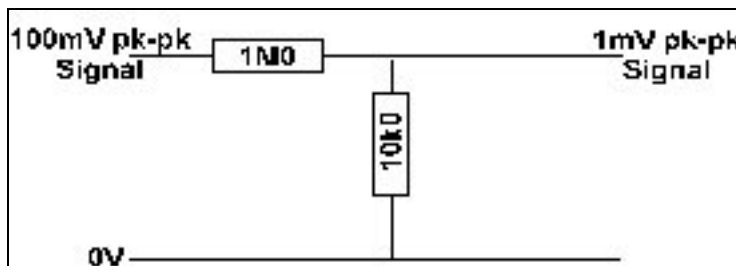

Figure 1 Signal attenuator
3. Connect a 1M Ω (1%) resistor and a 10k Ω (1%) resistor in series across the signal output connectors as shown in Figure 1. This will attenuate the Signal Generator to a level (1mV pk-pk) which can be applied directly to the inputs of a Nervus amplifier.